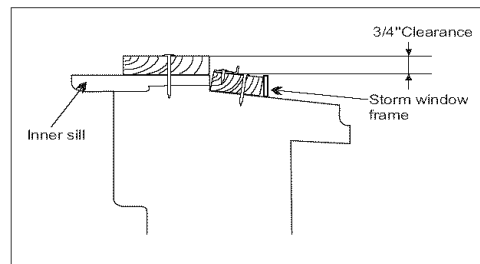

Fig.8
7. If storm window presents interference, fasten a 2" wide wood strip to the inner window sill across the full width of the sill. The wood strip should be thick enough to raise the height of the window sill so that the unit can be installed without interference from the storm window frame, as show in Fig. 8.
This will raise the L bracket as shown in Fig. 8.